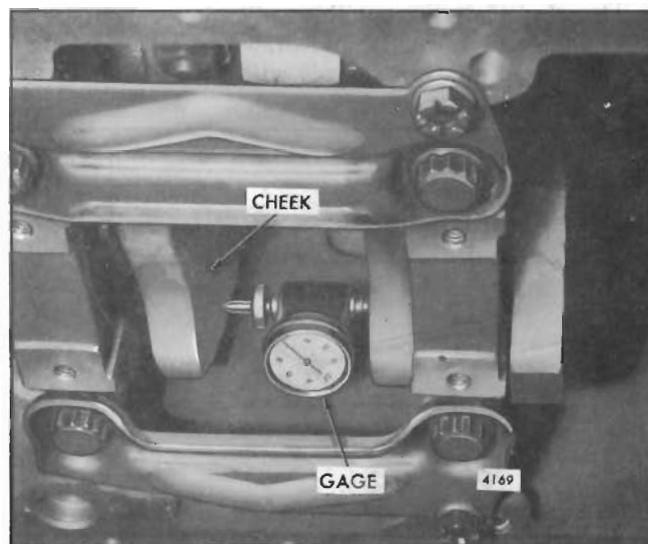

Fig. 12 - Crankshaft Distortion Measuring Gage Mounted on Crankshaft
- Install a gage (Starrett Co. No. 696 dial gage, or equivalent) in the center punch holes in the cheek of each counterweight as shown in Fig. 12.